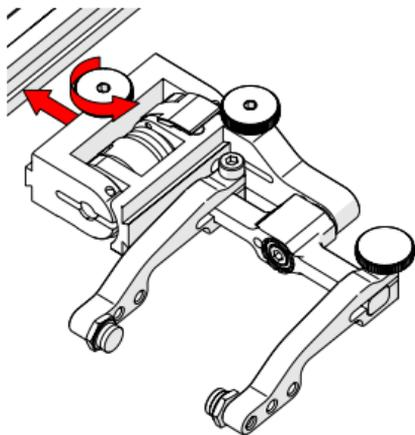

Fig. 89 - Attach to frame bar
1. Rotate the probe holder adjustment knob and attach the probe holder to a frame bar (Fig. 89).